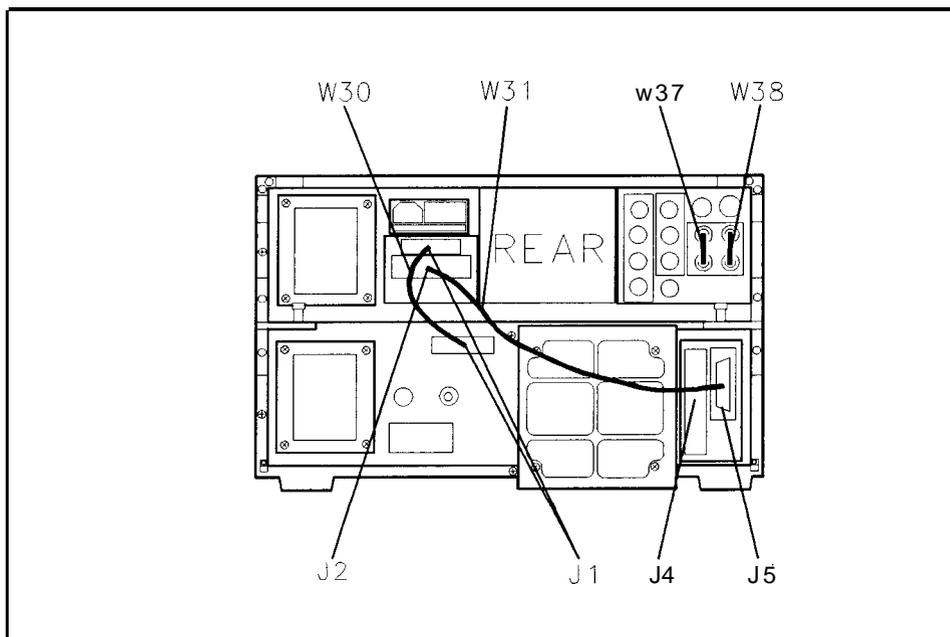

Figure 2-1 1. Rear-Panel Cable Connections
4. Connect cable W31 between IF-Display section J2 and RF section J6. See Figure 2-1.
10. Connect cable W31 between IF-Display section J2 and RF section J6. See Figure 2-1 1.